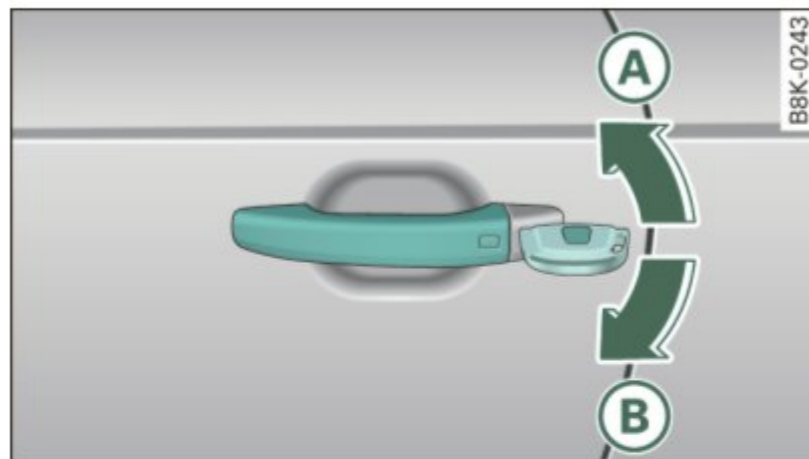

Fig. 46 Key turns for opening and closing
- Turn the key to position ⇒ fig. 46 (A) until all the windows have reached the desired position and the power sunroof is open.